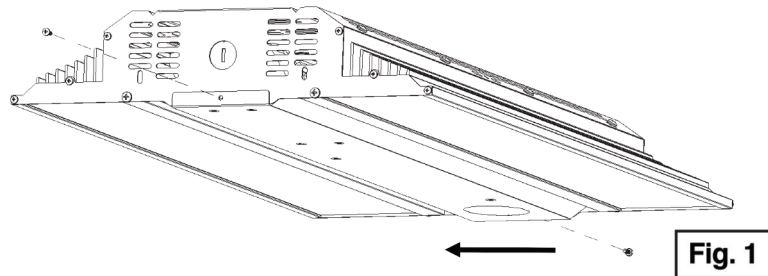

Fig. 1
Remove the two (2) bottom center screws securing the center driver plate to the fixture. Slide the driver plate to the left or right depending on the orientation of the fixture, see **Fig. 1**.